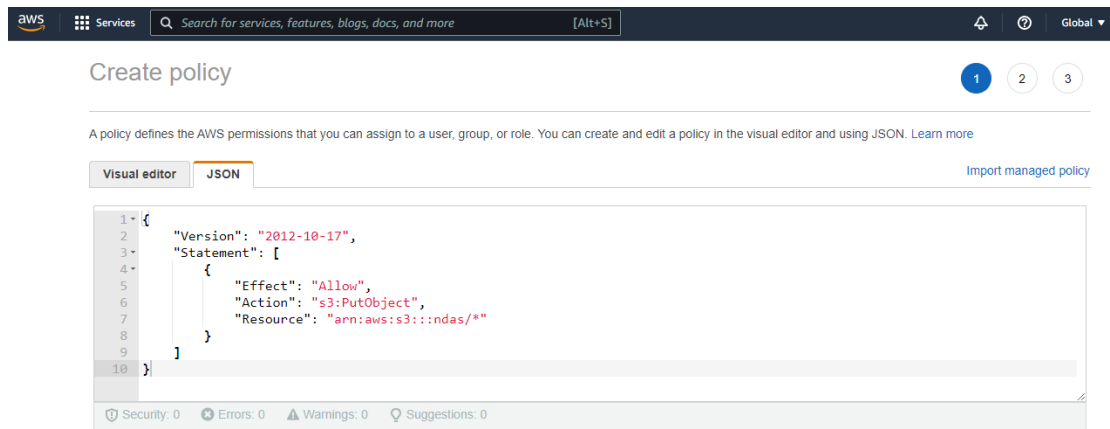

Figure 4-149 Input the policy content of Put Object to S3 Bucket (JSON format)
12. You can choose to follow the wizard to automatically fill in the details according to your requirements, or you can manually enter the JSON parameters. Here is an example as shown in Figure 4-149.